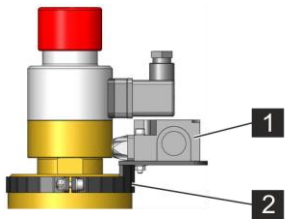

Fig. 99: Mounting the switch
2. ➤ Attach the switch (Fig. 99/1) with the screws, washers (4 pcs) and nuts to the clamp (Fig. 99/2). (Do not tighten the screws yet.)